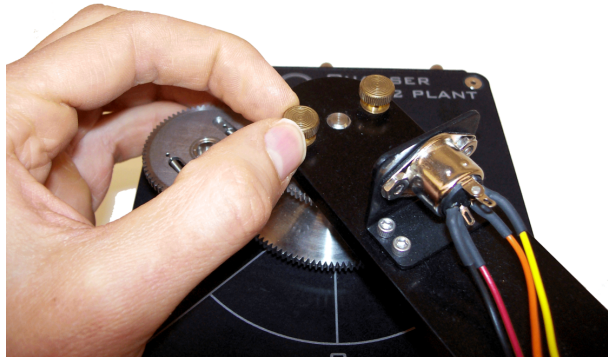

Figure 4.1: Mount arm on SRV02 output shaft and tighten thumbscrews
2. Mount the ROTPEN-SE module onto the load output shaft of the SRV02 as shown in Figure 4.1 Make sure the long side of the arm can be lined up the 0 degree marked on the SRV02.